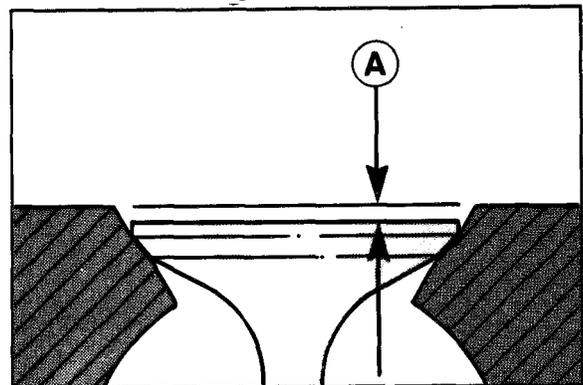

Figure 6-17
13. The valve depth is the distance from valve face to head deck. Record depth of each valve as A (Figure 6-17). The valve depth minimum is 0.039 in. (0.99 mm) and maximum is 0.060 in. (1.52 mm).